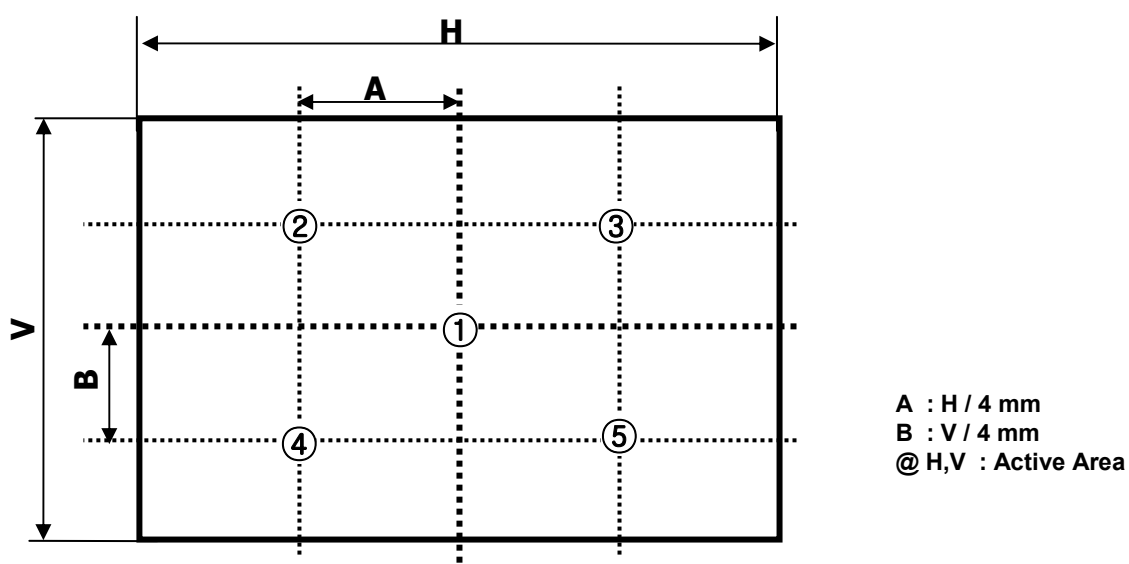

FIG. 2 5 Points for Luminance Measure
n = the Position number(1, 2, 3, 4, 5). For more information, see FIG 2.
2. Surface luminance is determined after the unit has been 'ON' and 120min after lighting the backlight in a dark environment at  $25 \pm 2^\circ\text{C}$ . Surface luminance is the luminance value at center 1-point across the LCD surface 50cm from the surface with all pixels displaying white. For more information see the FIG. 2.
For more information, see the FIG. 2.